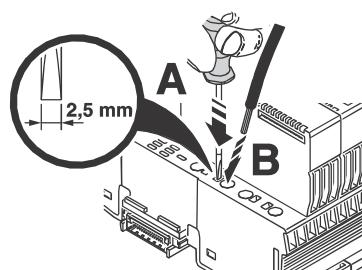

Figure 11-18 Connecting a stranded cable with tools
- Open the spring by pressing the actuation slot with the screwdriver (Figure 11-18, A). Use, for example, a bladed screwdriver with a blade width of 2.5 mm. Phoenix Contact recommends the Szs 0,4x2,5 screwdriver (see Section “Ordering data” on page 130).
- Insert the cable in the terminal point (B).